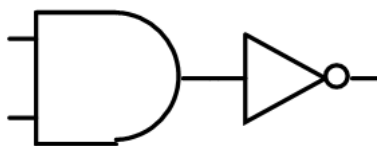

Figure 3.23a: AND followed by NOT
4. **NAND gate:** The NAND gate is derived from an AND gate followed by a NOT gate or inverter as shown in Figure 3.23a. The output of a NAND gate is the binary inverse of AND. Thus, the NAND gate simply means Not AND.